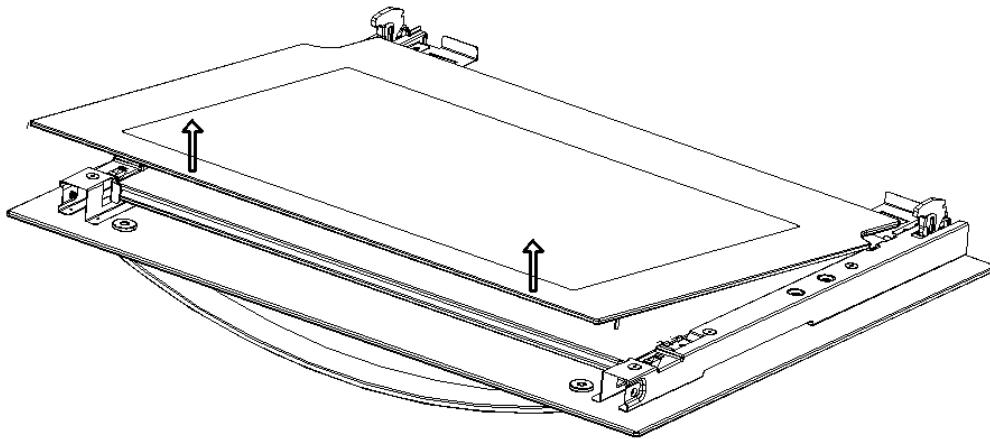

Figure 7
3. To move up the inside glass along with the direction of the arrow, as shown in figure 7